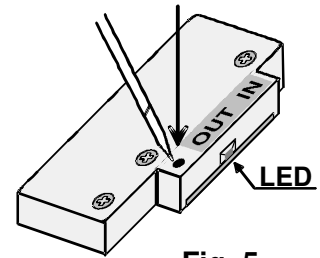

Fig. 5
4.3 Function of the operating key (Fig. 5)
Check the reception quality by the side-positioned LED (Fig. 5, p. 6).
Activate reception by a brief key touch (Fig. 5, p. 6).